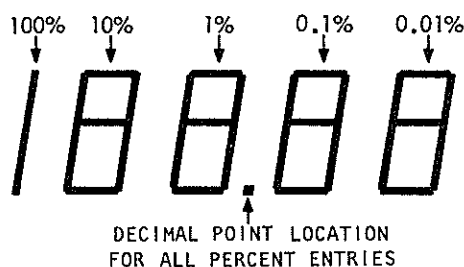

Figure 2-7
3. Enter numerals for the desired percent limit. Numerals will appear in righthand display. Leading zeros must be entered, but trailing zeros may be left off. For example to enter 17% limit, digits 0, 1, 7 must be pushed. Figure 2-7 shows digit position required for desired percent limits.